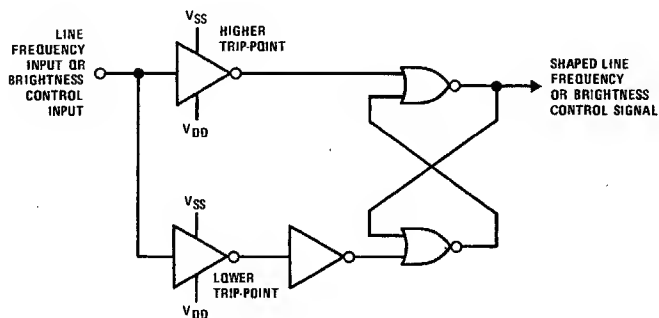

FIGURE 2. 60 Hz (or 50 Hz) Input (or Brightness Control Input) Shaping Circuit
**Line Frequency Input (pin 12):** A shaping circuit is provided to square the 60 Hz (MM5370) or 50 Hz (MM5371) input. This circuit allows use of a sine wave input. The Schmitt Trigger shaper (*Figure 2*) is designed to provide approximately 6V of hysteresis. A simple RC filter, such as shown in *Figure 8*, should be used to remove possible line-voltage transients that could cause the clock to gain time or damage the device. The shaper output drives a counter chain which performs the time-keeping function. A prescale counter divides the line input frequency to obtain a 1 pps timebase.
**Brightness Control Input (pin 15):** Since display brightness is a function of cathode segment current, a capability of interrupting this current for a variable percentage of the digit interval results in a brightness control. Connecting this Schmitt Trigger input (see *Figure 2*) to  $V_{DD}$  places all cathode segment drive voltages at the high level, thereby inhibiting the display. Conversely,  $V_{SS}$  applied to this input enables the cathode segment drives. The Schmitt Trigger shaper provides approximately 1V of hysteresis, which facilitates using a waveform such as a sawtooth with a variable slope (or variable dc component) to effect the shaper output duty cycle and, therefore, the display brightness. The control waveform should be derived from the multiplex frequency; a circuit is included in *Figure 8*.